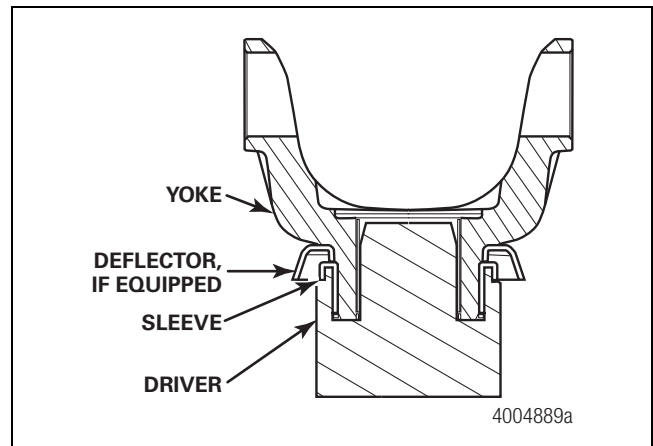

Figure 4
3. Install the deflector, if equipped, onto the yoke. You must install the deflector before you install the sleeve into the yoke. Figure 4.